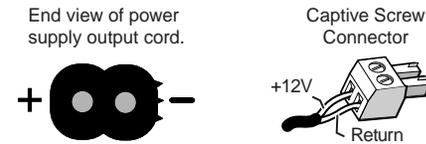

Figure 4 — Power connector wiring
- Power connector**— Plug the external 12V power supply into this 2-pole captive screw connector. Figure 4 shows how to wire the connector.